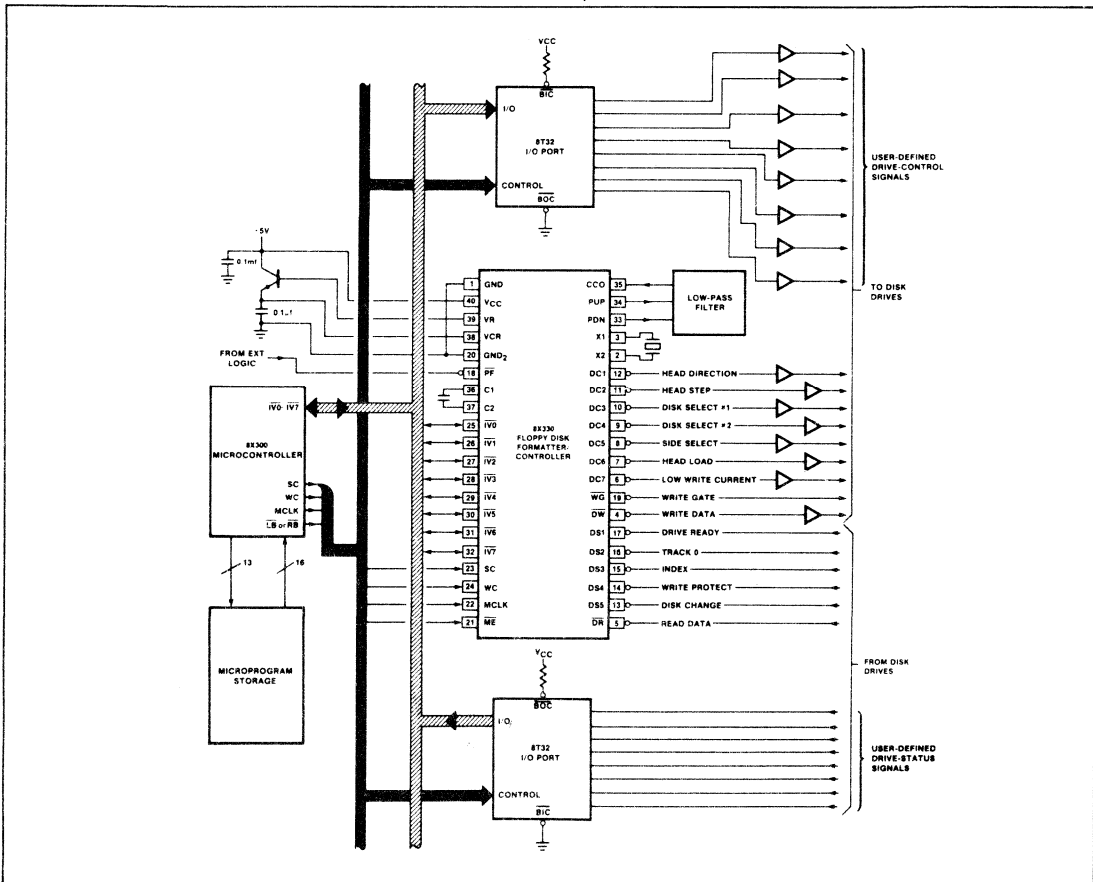
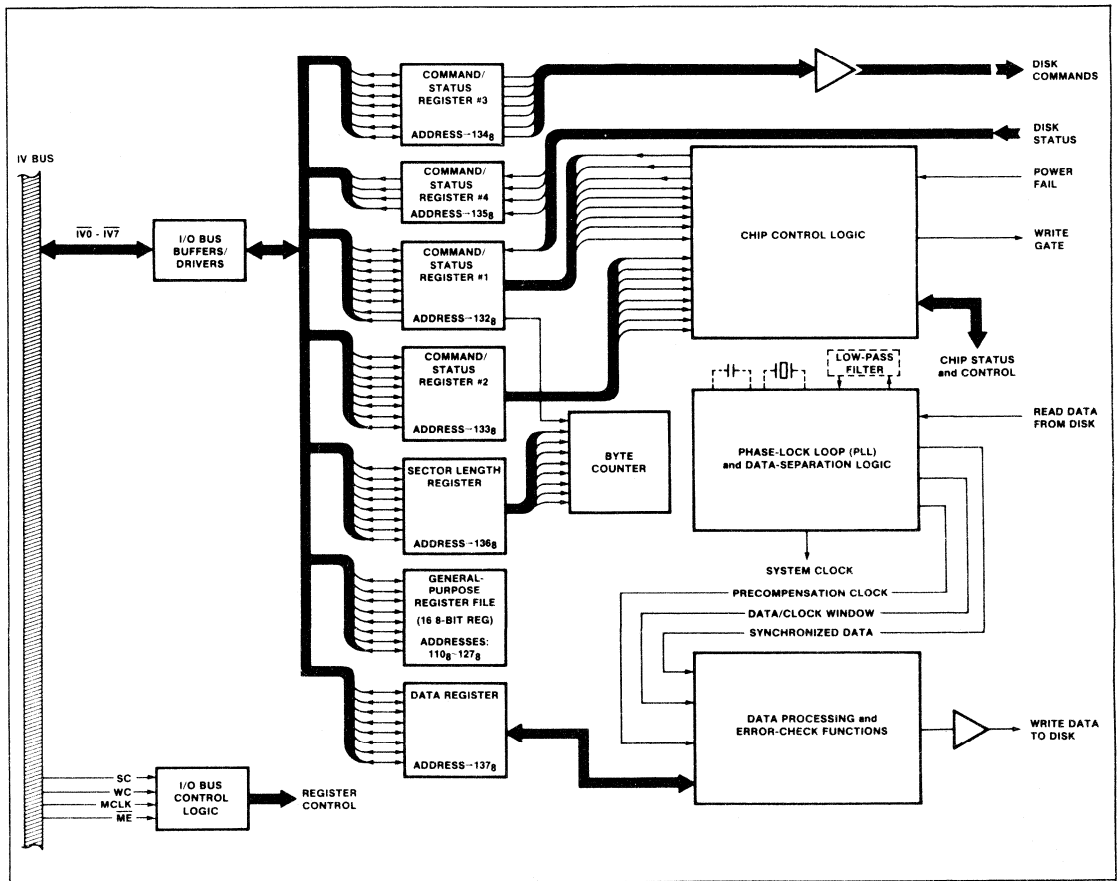

Figure 2. Typical Interface Using an 8X300 Microcontroller
Figure 3. An Expanded View of the 8X330/8X300 Interface
A typical floppy disk controller using an 8X300 microcontroller and the 8X330 is shown in Figure 2. The non-shaded portion of this particular configuration can service the command, status, and input/output requirements of two double-sided disk drives and, under software supervision, the system can read/write single-density (FM) or double-density (MFM/M2FM) codes. Interface requirements are simple—on one hand, consisting of the 8X300 microcontroller and, on the other, the two disk drives. All 8X330 control and data registers directly linked to the microprocessor interface (Figure 1) are addressable and appear to the 8X300 as simple I/O ports; a 13-bit address bus and a 16-bit instruction bus provide communications between the 8X300 and up to 8K of microprogram storage.
thus, the user can assign system functions to best suit a given application. As shown in Figure 2, all control lines except WG are buffered to accommodate a reasonable distance between the controller and the disk media; the Write Gate, being a 40-milliampere output, requires no buffering.
As shown by the shaded part of Figure 2, the control and status lines can be expanded with peripheral hardware—the 8T32 (in this example) being only one method of implementation. Using this particular technique, one I/O port is totally dedicated to output control, whereas, the other port is totally dedicated to input status. With additional hardware and supporting software, the disk-drive system can be expanded without limit; however, from a point of being practical, five or six drives is sufficient for most applications. By using the programmable features of the 8X330, the user can emphasize and prioritize those system parameters that are most important—economics, reliability and/or speed.
As shown in Figure 2, the interface between the 8X300 and 8X330 consists of twelve (12) lines—IV0-IV7, SC, WC, MCLK, and ME; the Master Enable (ME) input (pin 21) is driven from either the LB (Left Bank) or RB (Right Bank) output of the 8X300. An expanded view of this interface is shown in Figure 3 and, as indicated, the 8X330 appears as a number of addressable registers (110g-127g and 132g-137g) under input/output control of the 8X300. These registers are used for general-purpose storage, data-transfer operations, disk commands, disk status, and various control functions. Design-oriented information for these registers and other data-processing/logic functions of the 8X330 are described in the paragraphs that follow; in all of these registers, bit 0 is the Most Significant Bit (MSB).